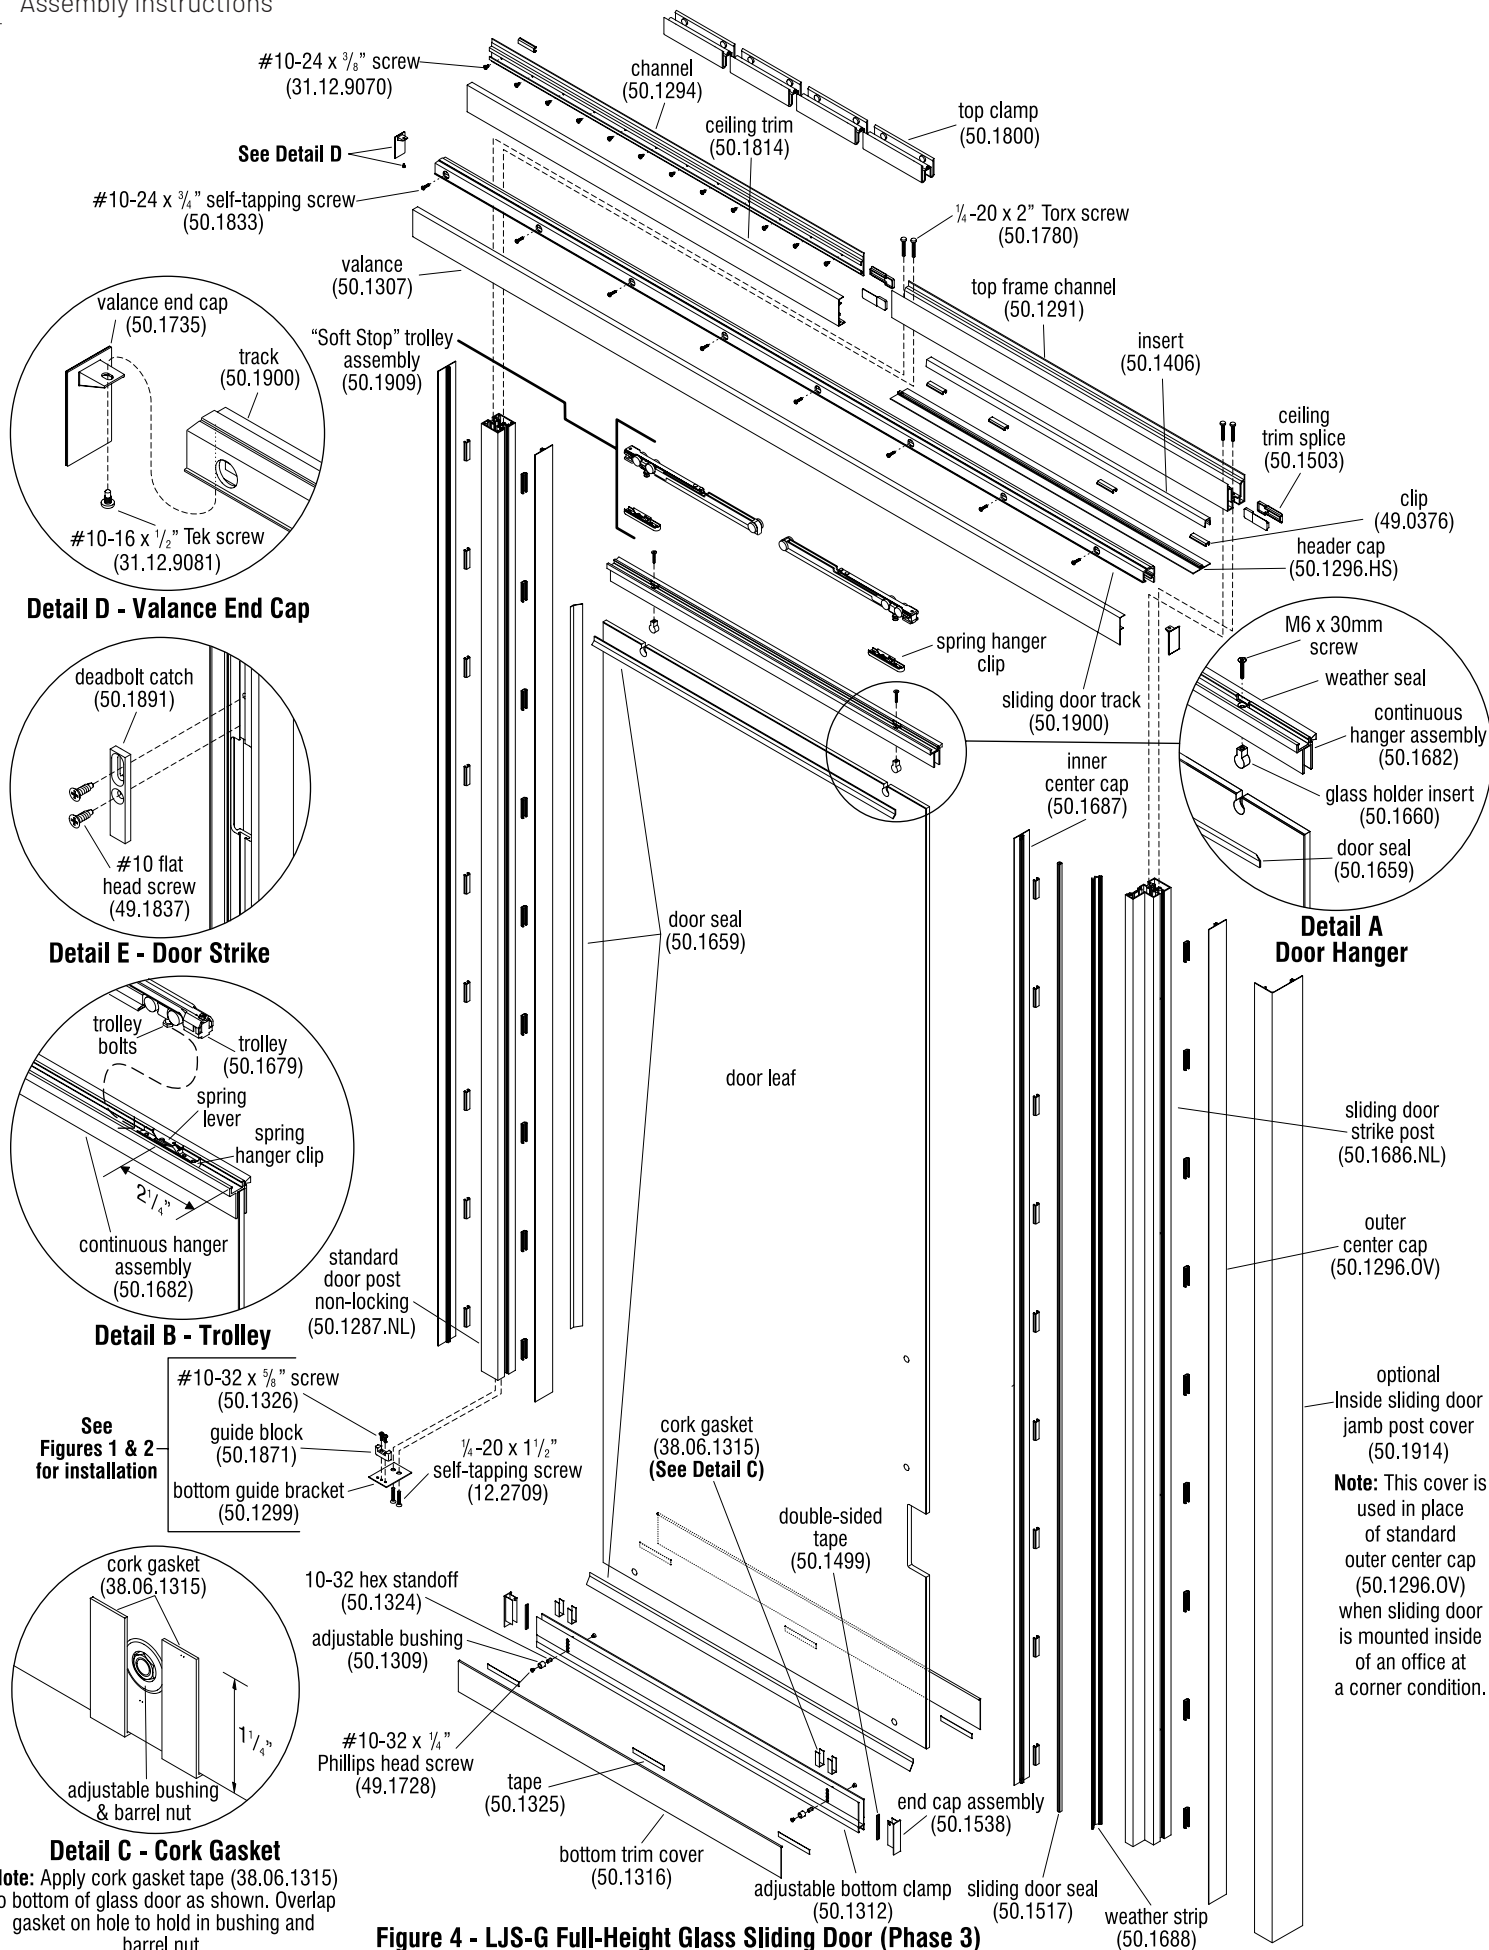

Figure 4 - LJS-G Full-Height Glass Sliding Door (Phase 3)
1. To determine what length the "standard non-locking door post" must be cut to, first install into position a sample piece of ceiling trim onto the ceiling rail at the door post location. Determine the length by measuring from the bottom of the installed sample ceiling trim, down to the floor at that post location and record that measurement. If carpet is present, account for extra length that the post will sink into carpet, and also remove length for the 1/16" thickness of the bottom guide bracket (50.1299) (Figure 4).
2. Locate the standard non-locking door post, measure from the top of the post to the bottom and mark the recorded measurement onto the post at the bottom end. Cut the bottom of the post off square at that length (Figure 4).
3. To determine what length the "sliding door strike post", follow step 1 above (Figure 4).
4. Locate the standard sliding door strike post, measure from the top of the post to the bottom and mark the recorded measurement onto the post at the bottom end. Cut the bottom of the post off square at that length (Figure 4).
5. Stand both door posts up under the ceiling rail at their respective installation locations, take into account the bottom guide bracket which will be installed to the standard non-locking door post later, and check that the posts are cut to the correct height. Remove the sample ceiling trim once the posts are known to be the correct height (Figure 4).
6. Lay the standard and sliding door strike posts with the top frame channel onto a soft protective surface on the floor in the correct orientation. Secure three pieces together using four 1/4-20 x 2" Torx screws (50.1780) (Figure 4).
11. Position the channel (50.1294) onto the additional panel clamps and push it up until it fully seats against the ceiling rail and against the sliding door frame. Secure the channel to the clamps using twelve #10-24 x 3/8" screws (31.12.9070). Assure the screws secure into the clamps and not into gaps between them (Figure 4).
12. Install the ceiling trim (50.1814) over the installed channel (50.1294), butting it against the top frame channel (50.1291) (Figure 4).
13. Locate the sliding door track (50.1900) and assure it is clean and free of debris. With the assistance of two people, position the track against the top frame channel and the ceiling trim about 1/8" from the bottom of the top frame channel to the bottom of the track (Figure 4). Mark each screw hole.
15. Position the track over the pilot holes and secure using eight #10-24 x 3/4" self-tapping screws (50.1833) (Figure 4).
16. Insert the trolley assembly (soft stop trolley assembly, 50.1909 or bumper stop trolley assembly, 50.1680 - not shown) into the door track (Figure 4). See separate instructions included with the door stops and trolleys.
17. To hang the sliding door leaf, begin by attaching the continuous hanger assembly (50.1682) to the top of the door leaf. First, apply a strip of seal (50.1659) across the top of the door leaf aligning the non-taped edge to the top edge of the door leaf (Figure 4 & Detail A).
18. Next, remove the M6 x 30mm screws from the glass holder inserts (50.1660) and place the glass holder inserts into the notches at the top of door leaf. Then, slide the continuous hanger assembly over the top of the door leaf (Figure 4, Detail A).
22. To attach the adjustable bottom clamp (50.1312), make sure the door leaf is partially positioned over the door opening. Then insert two adjustable bushings (50.1309) into the two holes in the bottom of the door leaf (Figure 4).
23. Apply four strips of gasket cork (38.06.1315), two on each side of the two holes, overlapping the hole a little to retain the bushing at each side. Start at the top of the hole and go down around the bottom edge of the glass, and up to the top of the hole on the opposite side of the glass (Figure 4 & Detail C). Note the cork height of 1 1/4" at each side.
24. Slide the adjustable bottom clamp on the door leaf and over the guide block from the opposite end of the sliding door strike post (Figure 4).
25. Spin a #10-32 hex standoff (50.1324) on one of the #10-32 x 1/4" Phillips head screws (49.1728). Do the same for the second set (Figure 4).
26. Position the adjustable bottom clamp to approximately 1/2" off the floor and install both the screw and hex standoff through the two bushings (Figure 4).
27. Install both of the second screws into the opposite end of the hex standoffs (Figure 4). Do not fully tighten.
28. Install both end caps (50.1538) with double-sided tape (50.1499) on the adjustable bottom clamp. Push the end caps all of the way in so that the cap is tight up against the edge of the glass (Figure 4).
29. Tighten the #10-32 x 1/4" Phillips head screws to secure the adjustable bottom clamp to the door leaf (Figure 4).